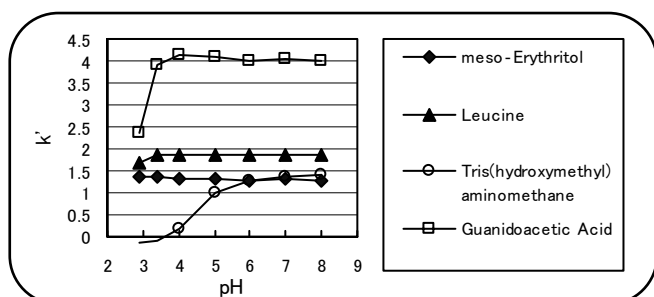

Fig.4 The effect of buffer pH on retention
- The buffer around neutrality generates larger retention. (Fig.4)